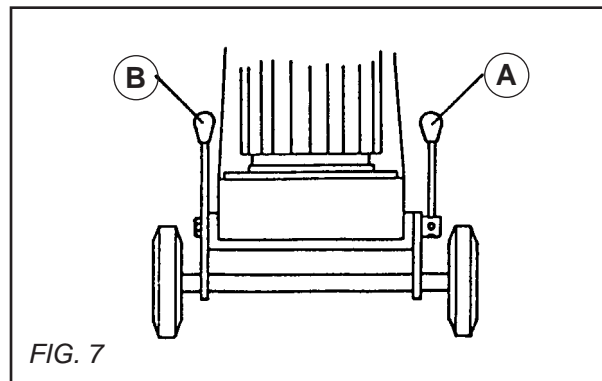

FIG. 7
- Obtained by untightening lever (A) and pulling lever (B) forwards (SEE FIG. 7).
- Obtained by untightening lever (A) and pushing lever (B) backwards (SEE FIG. 7).